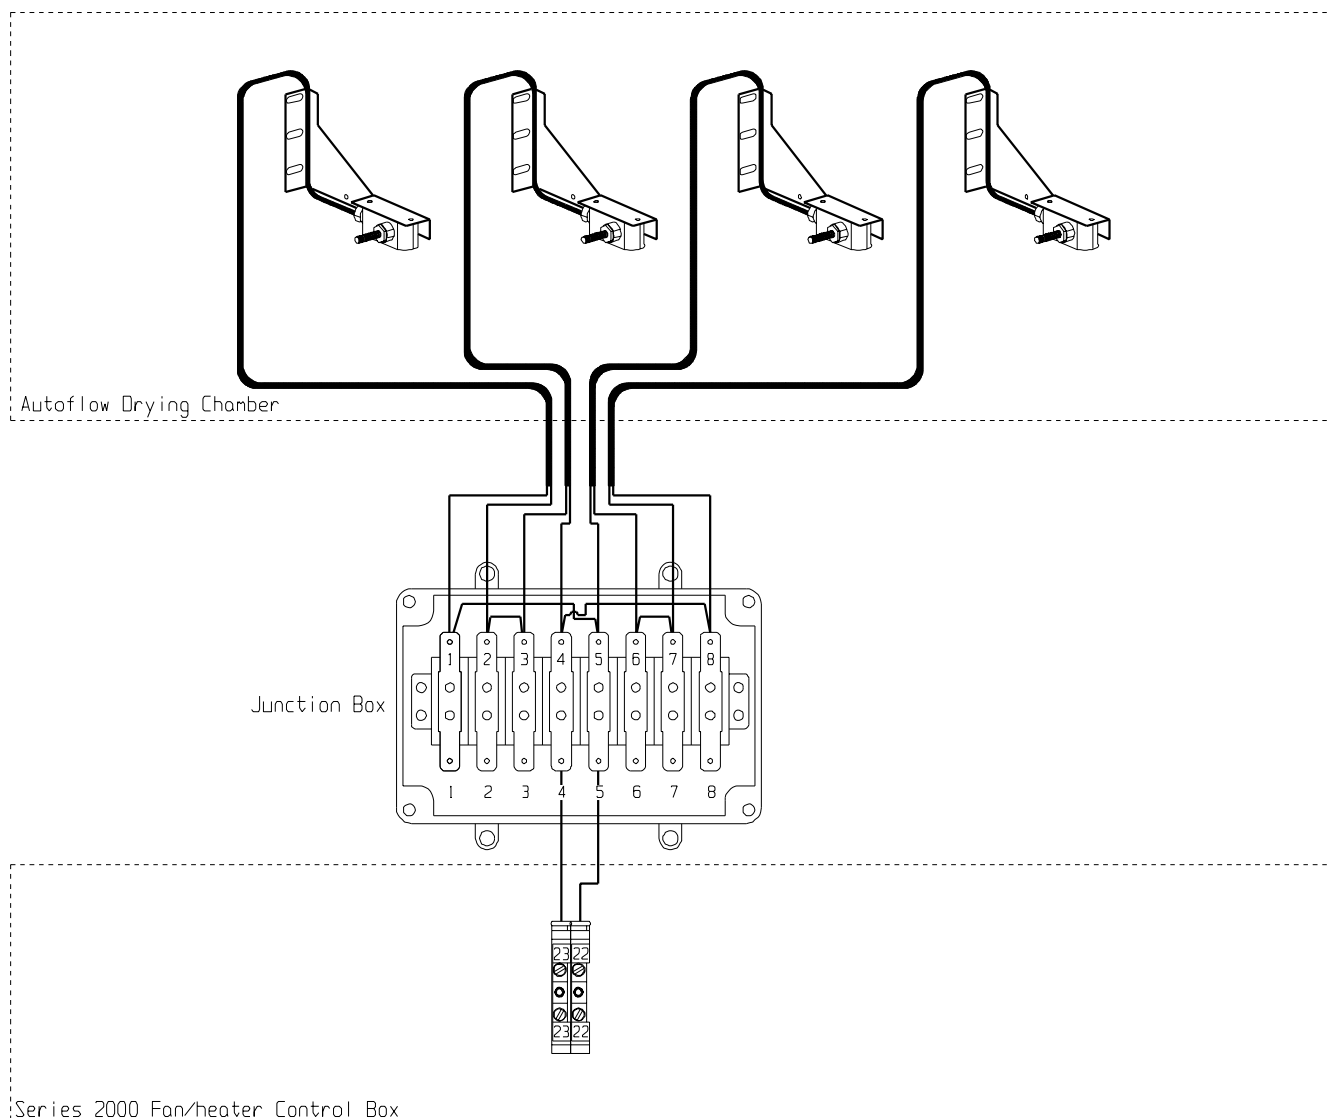

Figure 4: Illustration of the connection between the master heater control box and multiple sensors in the drying chamber.
7. Wire the four temperature sensors Figure 4.